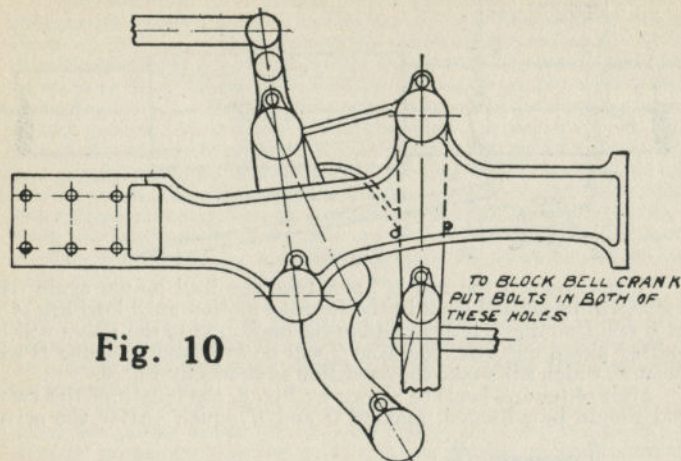

Fig. 10
The other way of blocking is by bolting the lower arm of the bell crank fast to the side of the frame. After the valves have been set, the reverse lever is put in mid-gear and two holes are drilled through the frame. Any bolt that will go through the hole can be used. (See Figs. 10 and 11.) With the gear bolted in this manner the valve will get the lap and lead movement and a port opening equal to the lead for all cut-offs. This allows the following parts to fail and yet get the lap and lead movement: eccentric crank, eccentric rod, connection rod, radius bars, reverse yoke, short reach rod and horizontal arm of bell crank.
*Breakdowns.* Beginning at the rear end; in case the eccentric crank, eccentric rod, or the lower end of the gear connecting rod should break, the only movement that could be imparted to the valve would be that of the combination lever, and as the combination lever is fulcrumed to the bell crank, it is plain that the bell crank must first be secured in a rigid position so that all the movement imparted by the crosshead to the combination lever would be imparted to the valve, as otherwise were the bell crank not secured, the chances are the bell crank would move instead of the valve rod. On the type of gear herein illustrated you will notice two holes through the gear frame, Figs. 10 and 11; these holes are for the